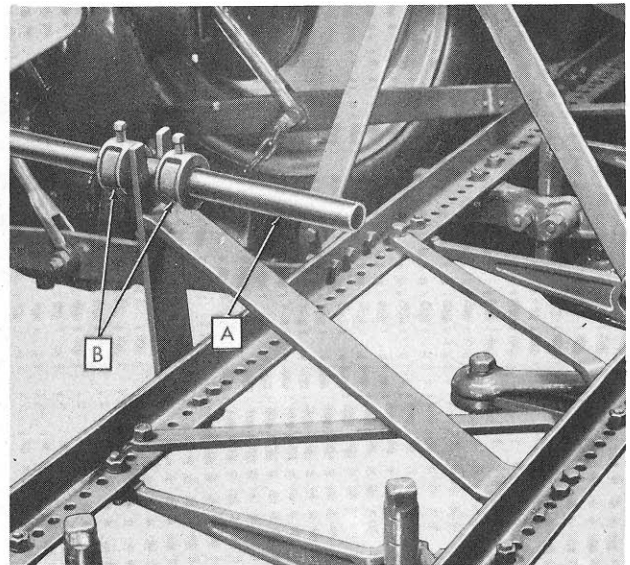

Figure 7
**Step 8.** Position push rod (A) in rear bracket, as shown in Figure 7, with collars (B) on either side of bracket. Tighten collars on push rods temporarily, subject to adjustment in the field.
Adjustment for soil penetration by the Spring Shank Front End Cultivator is obtained by moving the collars (B) in Figure 7 on the push rods on each side of the rear mounting bracket. After this adjustment has been made, the front tractor wheels act as depth gauges, following the contour of the soil.